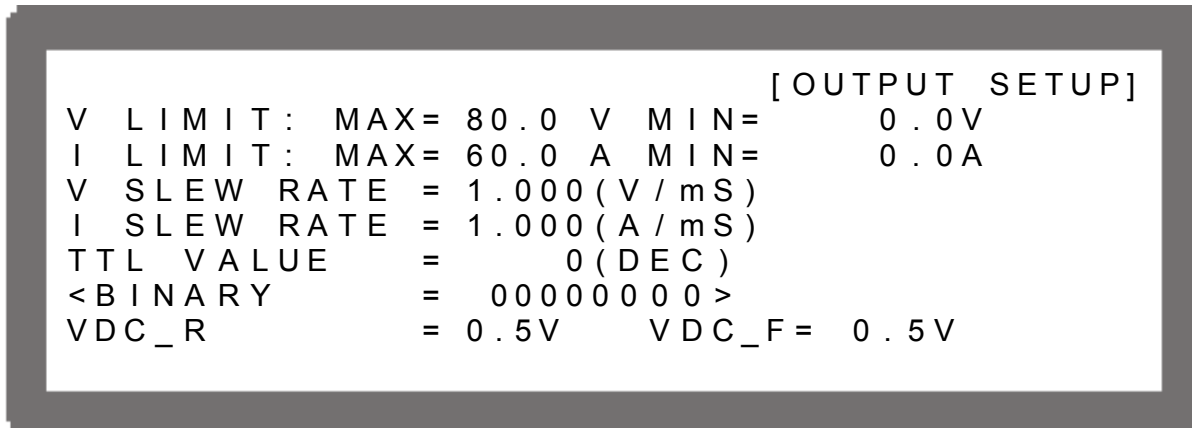

Figure 3-18
1. In Config Setup page, press “**2**” key to display the screen of Figure 3-18.
The values in Figure 3-18 are the default settings of 62012P-80-60.